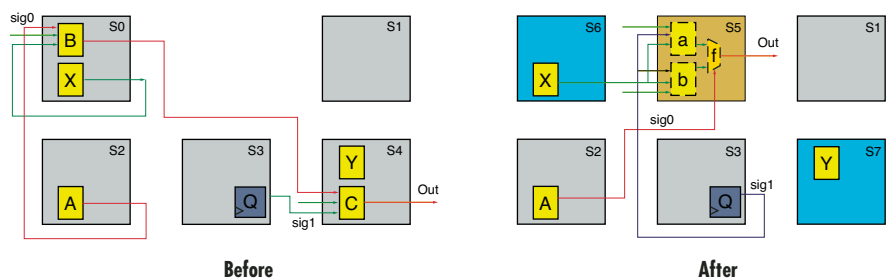

Figure 2 – Logic Recombination.
- **Logic Recombination:** If the critical path traverses through multiple LUTs through multiple slices, the logic can be reassembled utilizing fewer slices by using a more timing efficient combination of LUTs and muxes to reduce the routing resources needed for that path (Figure 2)